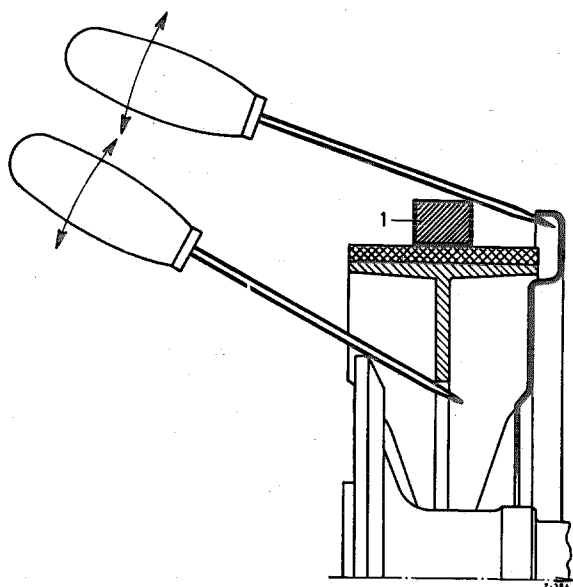

Fig. 42 — 8/5
22. Use a sturdy screw driver to press the brake shoes outward and inward several times against the resistance of the automatic adjustment (see Fig. 42 — 8/5).